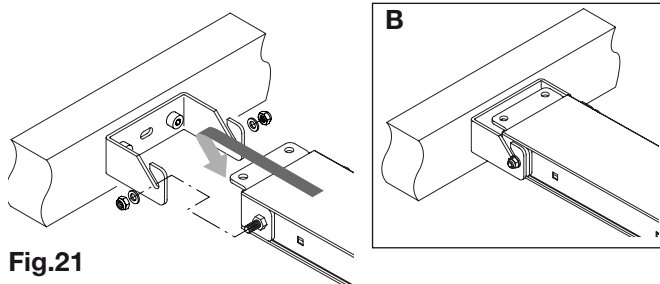

Fig.21
3) Attach the track to the bracket as indicated in figure 21, fixing it using the washers and nuts (detail B), rest the gear motor on the ground.